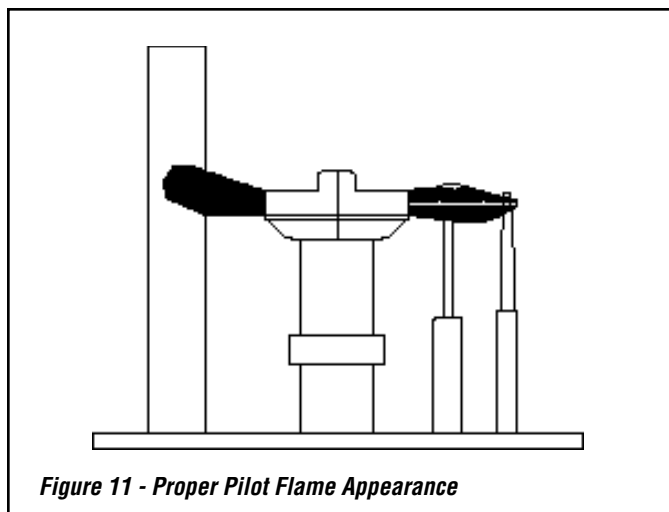

Figure 11 - Proper Pilot Flame Appearance
- Step 16.** Light the appliance per the lighting instructions label on appliance (located below glass door) or lighting instructions on **Page 23** in the *Installation and Operation Manual*. Inspect for proper pilot and burner flame appearances. See *Flame Color and Behavior* on **Page 24** and *Inspect The Pilot System For Proper Flame* on **Page 37** in the *Installation and Operation Manual*. Also see **Figures 11 and 12**.